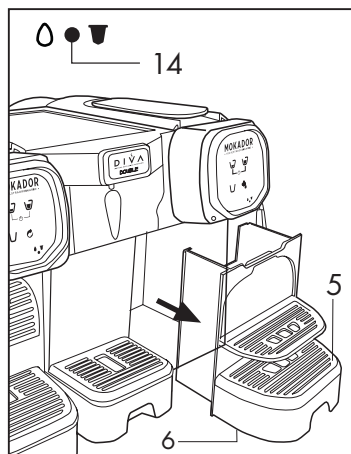
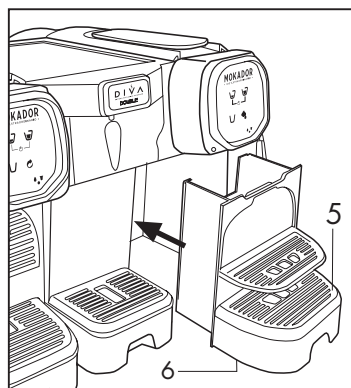

Fig. 15
Fig. 16
Remove the drip grid (5) (**Fig. 15**), wash and dry the components, then reassemble the tray (6) and replace it in its position (**Fig. 16**)